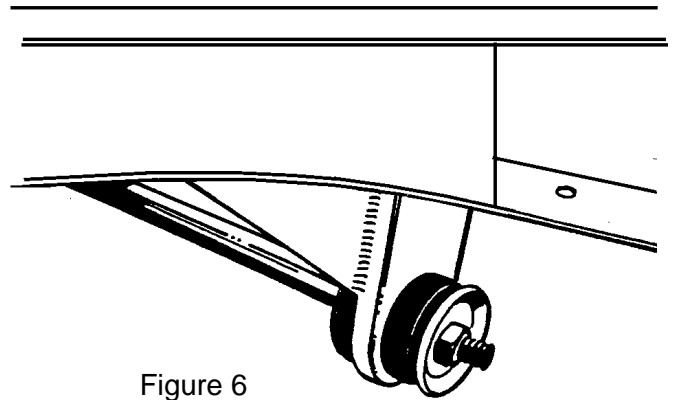

Figure 6
11. Install the strut rod onto the control arm. Now, assemble onto the strut rod the large rubber bushings, including the cupped washers, and the strut mount plate. Be certain to fully tighten the nut on the strut rod to its' fully seated position. See Figure 6. There are two rubber bushing sets available; the standard replacement and the improved set. We recommend the improved set, as it provides more stability to the front suspension. The Pinto and Mustang strut rods are different lengths. We recommend the use of Pinto strut rods, as they are bent less than the Mustang strut rods. You will find that with either strut rod the strut rod plate does not line up with the bottom of the frame rail. The strut rod must be heated in the elbow area and bent outward. The rod is bent outward until the strut mounting plate lines up to the frame rail. You will find that because the Pinto strut rod is initially bent less and requires much less bending. The strut rod will act as an alignment fixture while you tack weld the mount plate in place, then tack weld the gusset in place. Remove the strut rod, bushings, and arm, and finish welding to the frame and each other.